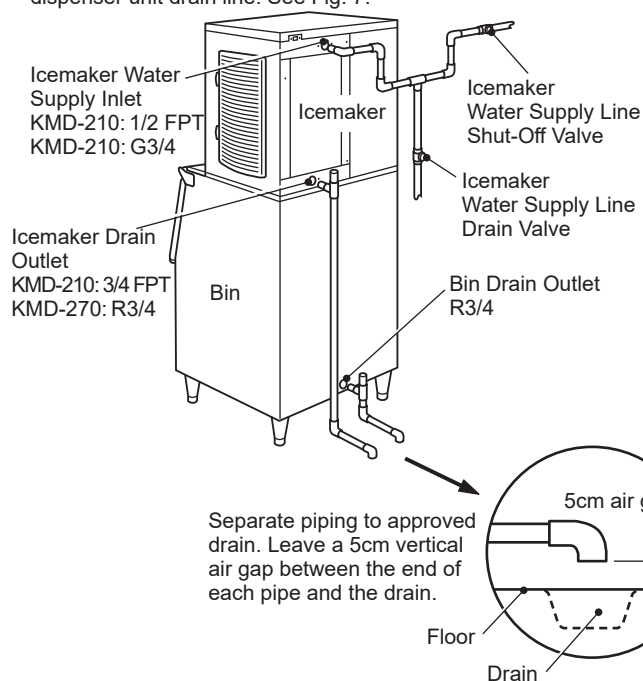

Fig. 7
* A vented tee connection is required for proper drain flow. See Fig. 7.
* The icemaker drain line must be run separately from the storage bin/dispenser unit drain line. See Fig. 7.